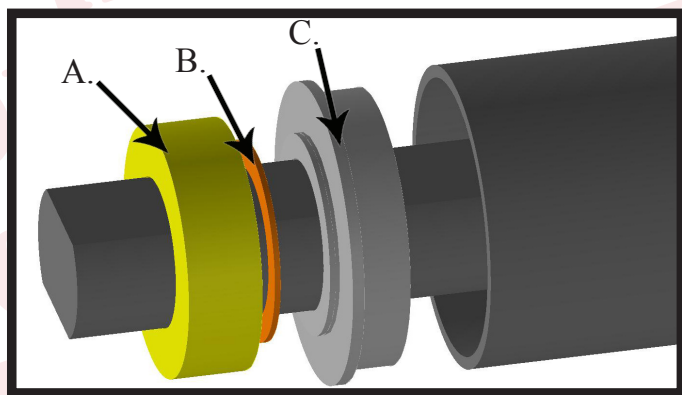

Figure 1
1. Loosen and remove locking collar (Figure 1 A.), wavy washer (Figure 1 B.) and lower bearing (Figure 1 C.).